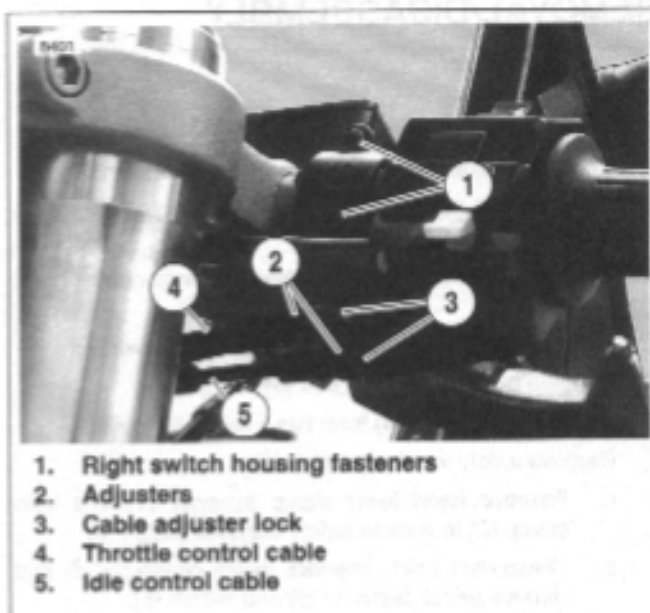
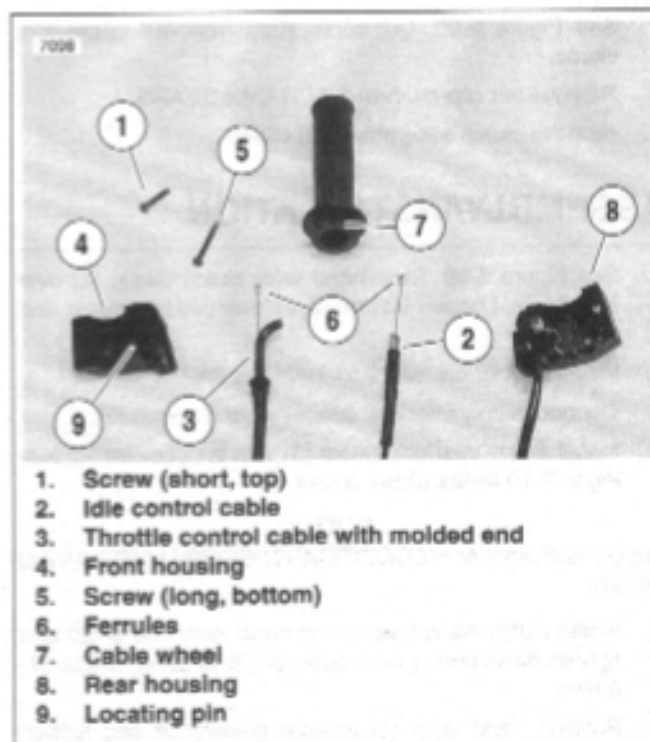

Figure 2-86. Throttle Control Cables
Figure 2-87. Cable Connections
1. See Figure 2-86. Loosen cable adjuster lock (thick disc) (3) on each cable.
2. Turn adjusters (thin disc) (3) in direction which will shorten cable housings to minimum length.
3. Remove fasteners (1) on right switch housing and separate housing from handlebar.
4. See Figure 2-87. Remove cables (2, 3) from notches in front housing (4).
5. Remove ferrules (6) from throttle (7).
3. Install throttle grip and position ferrules (6) into cable wheel (7).
7. See Figure 2-86. Attach rear switch housing and position housings on right handlebar by engaging locating pin on front housing with hole in handlebar. Attach housings with two fasteners, installing longer fastener on bottom. Tighten to 25-33 in-lbs (3-4 Nm).